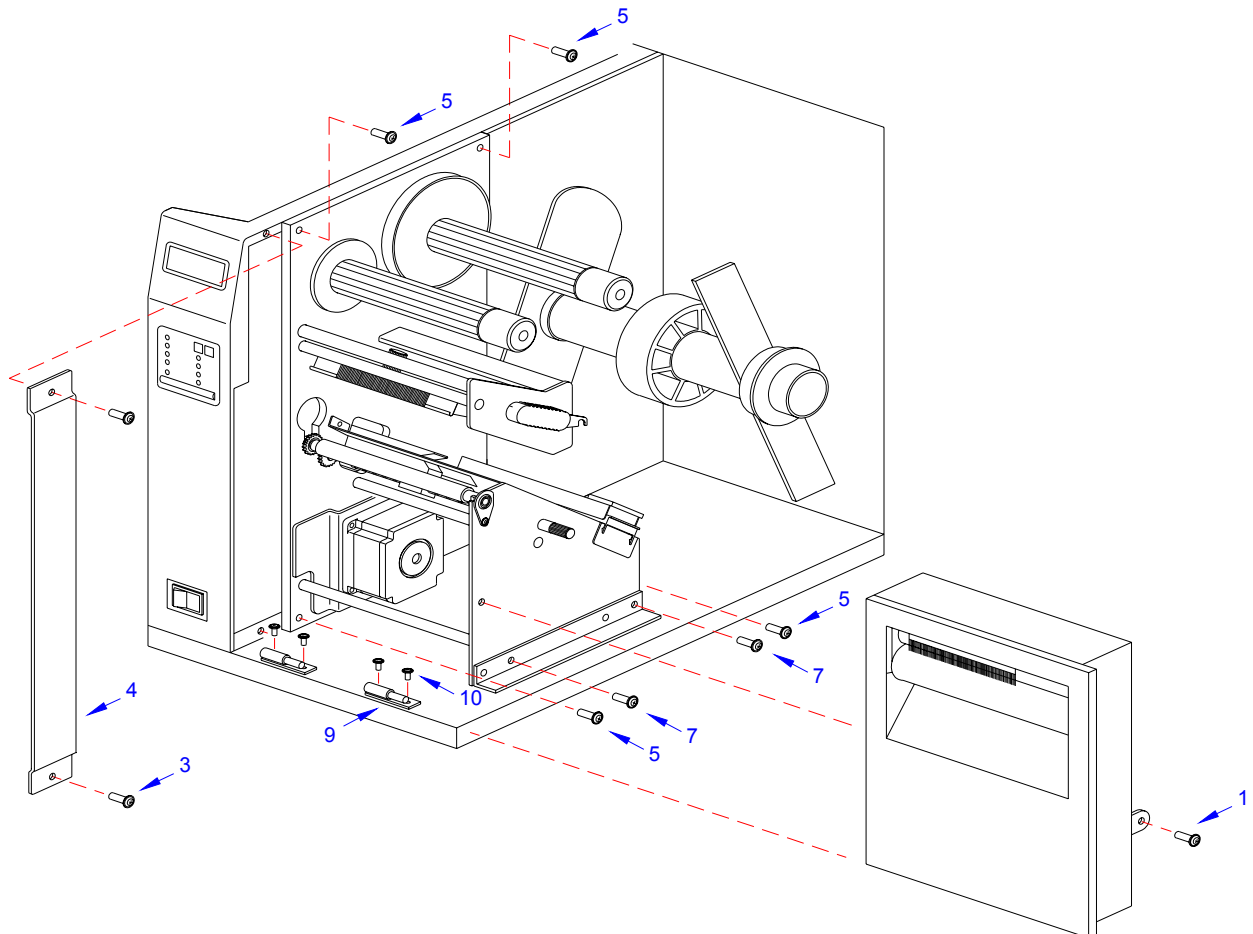

Figure 4-1b, Label Cutter Installation
- Reapply two screws (7) to side frame bracket (8) and four screws (5) to back panel (6) to secure print mechanism.
- Attach two hinge halves (9, Figure 4-1b) to the front base of the printer using two screws (10) for each.